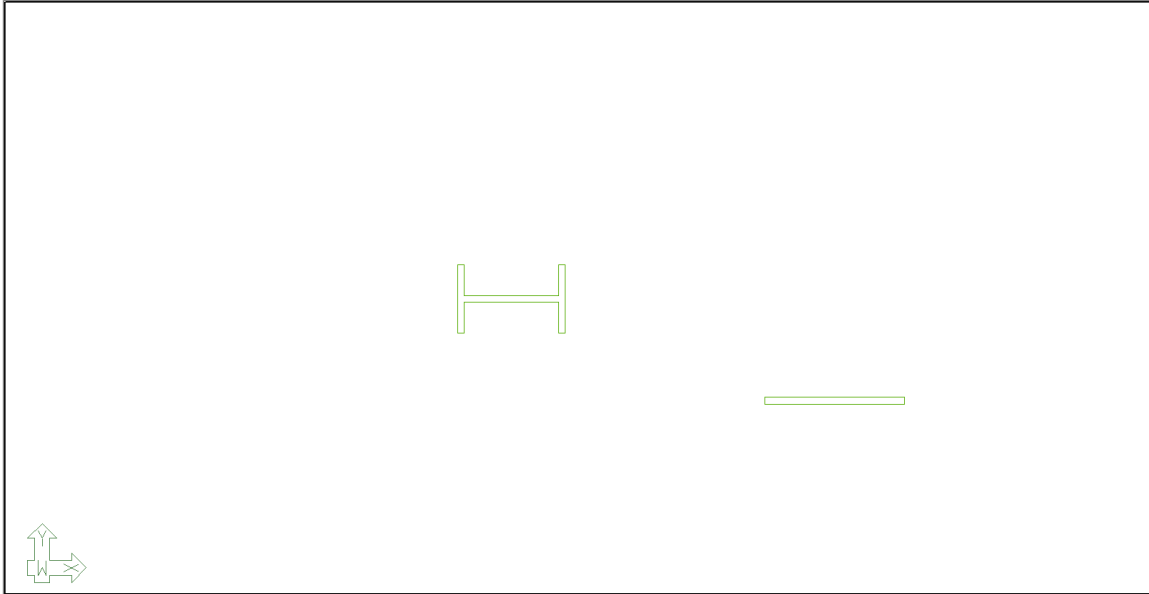

FIGURE 5-16
- Click on the **OK** button, the user should now see the wall polylines from the imported DWG as shown in **FIGURE 5-16**.